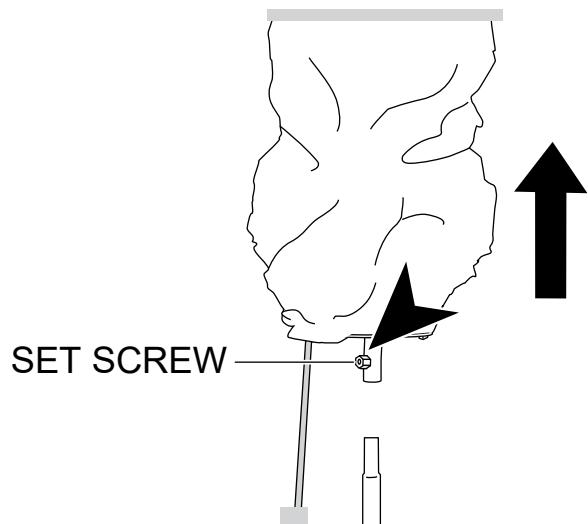

Figure 37. Detaching Balloon
1. Detach balloon and turn light assembly upside down to access filter (Figure 37).